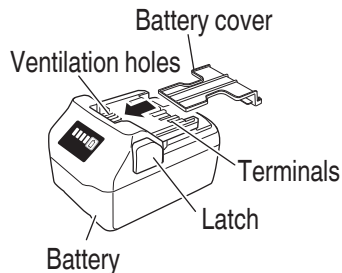

Fig. 1
- Either install the battery in the power tool or store by securely pressing into the battery cover until the ventilation holes are concealed to prevent short-circuits (See Fig. 1).